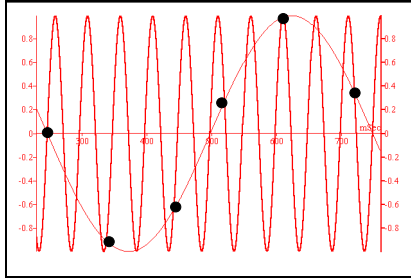

Figure 6: Frequency Aliasing
**Note:** Sampling at a rate slower than the expected rate can cause "frequency aliasing". In such a case, the graph will show a frequency much lower than expected. In Figure 6 below, the higher frequency sine wave was sampled at 1/3 of its frequency. Connecting the sampled points yielded a graph with a lower, incorrect frequency.